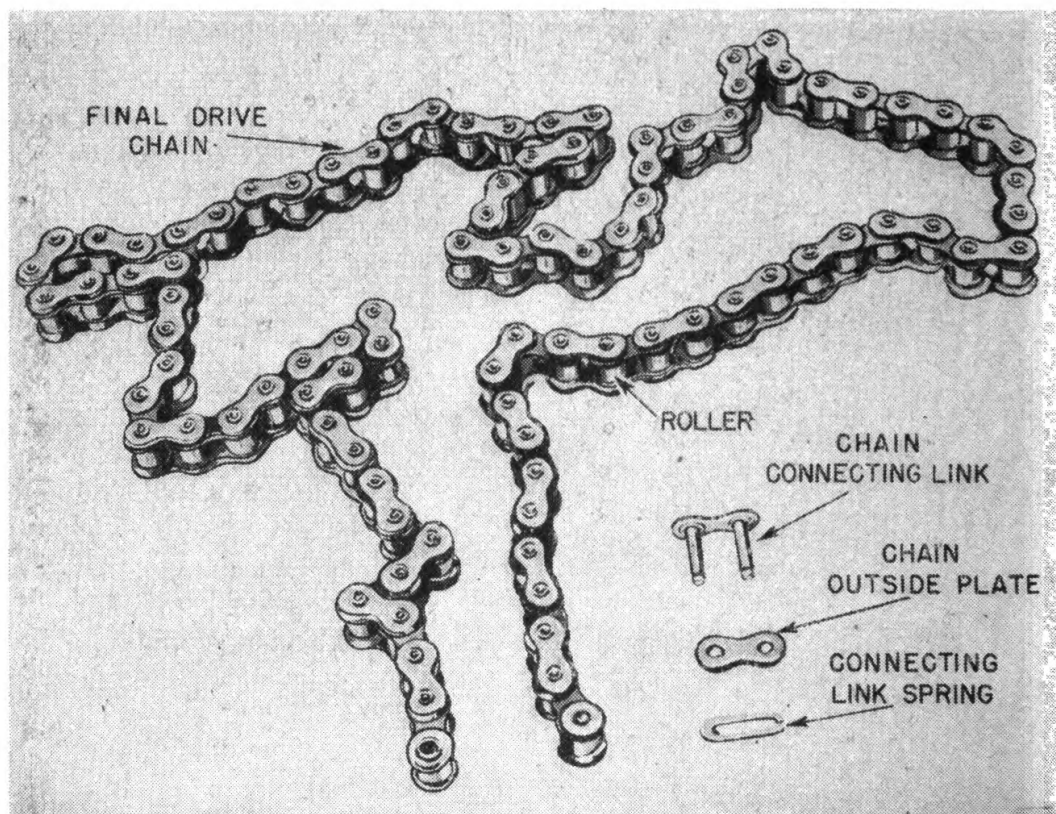

FIGURE 46.—Final drive chain.
(2) The final drive chain is constructed with rollers on single row connecting links as shown in figure 46. A master connecting link permits installing or removing the chain easily. The master link differs from the other links in that its outside plate is easily removable and it has a connecting link spring for locking the chain. The chain is lubricated by hand and its tension is adjusted by moving the rear wheel forward or backward as required. Adjusting screws on the